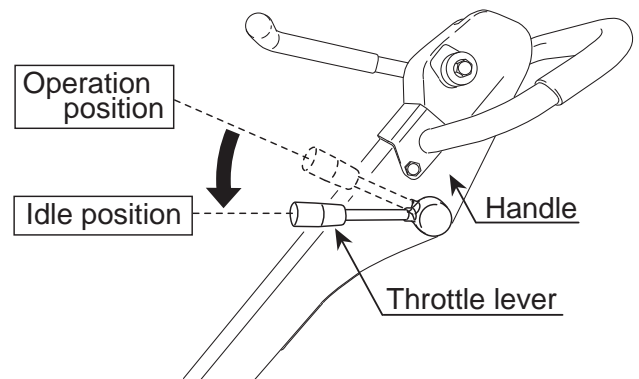

Figure 22. Throttle Lever (Idle)
1. Move the throttle lever to the **idle** position (Figure 22) and run the engine for three minutes at low speed.